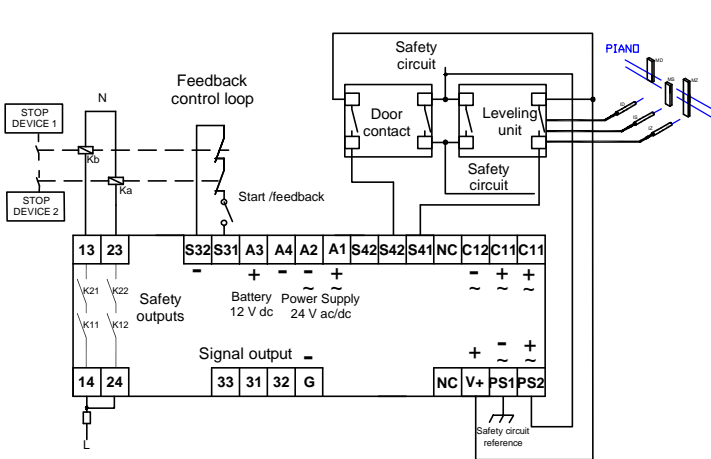

FIG. 2 Independent inputs mode with mechanical door contact
**Mode independent inputs with automatic doors contact** (Fig. 2): the system must be equipped with a safety leveling unit with 2 output contacts (NC80, NC96 lift) and an additional door contact. The contacts must be connected to the inputs S42 and S41 respectively.